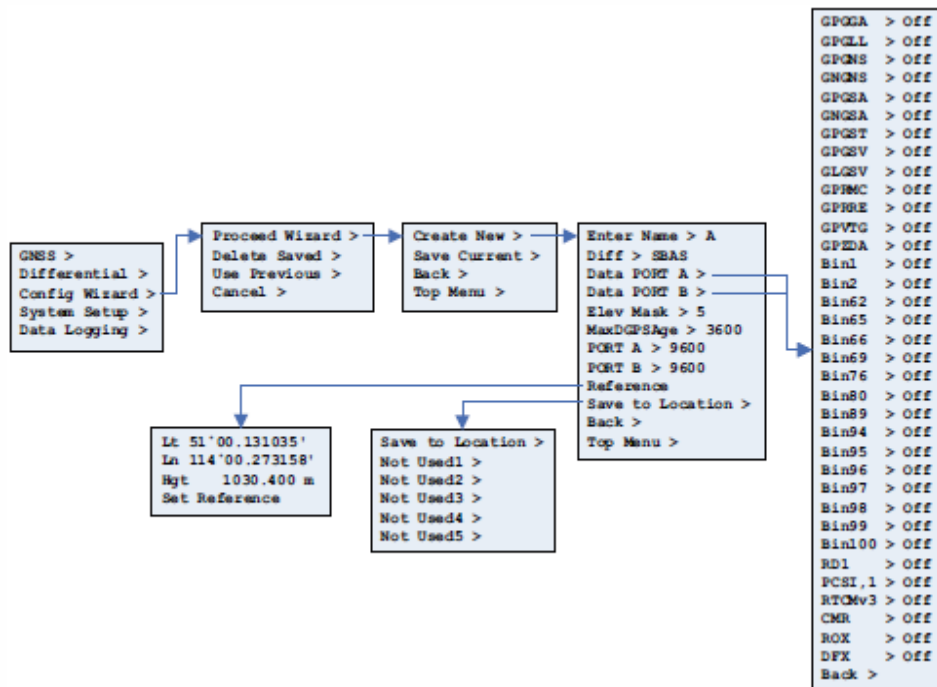

Figure 3-3: Config Wizard Menu
This section describes the basic Config Wizard options you need to set to get up and running. Figure 3-3 outlines the menu structure of the Config Wizard menu.
2. Select **Create New** to create a new configuration. You are prompted to enter a name for your configuration. In addition to the Name you can set the options shown at right (also shown in Figure 3-3 on the previous page).